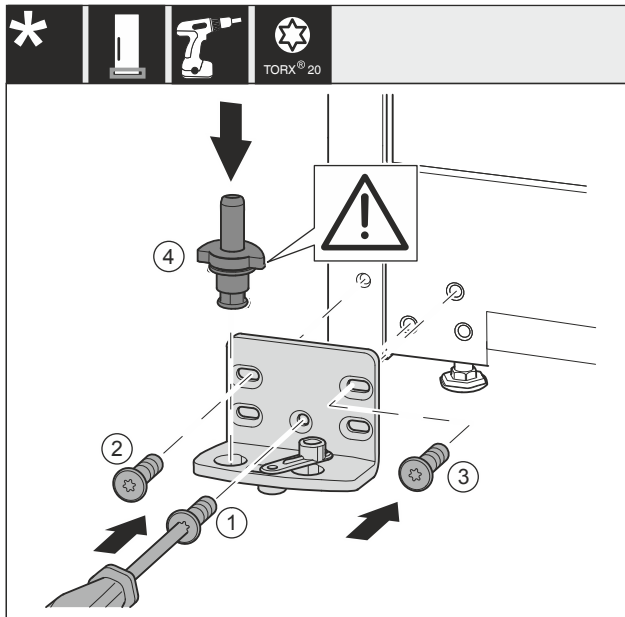

Fig. 24
- Place the swap bearing block on the other side and use a screwdriver to screw it on. Start with the Fig. 24 (1) bottom middle.
- Tighten screw Fig. 24 (2) and Fig. 24 (3).
- Insert the bearing bolt Fig. 24 (4) completely. Ensure that the latching cam is pointing towards the rear.